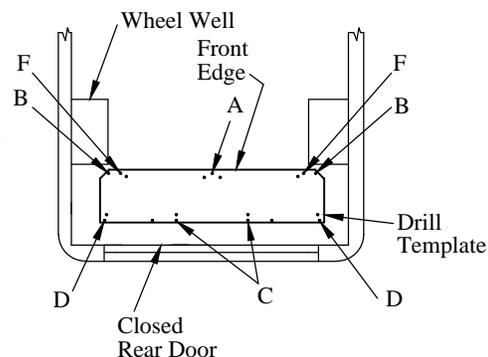

Figure 7: Drill location (top view).
14. **Drill** 3/8" holes in eight (8) locations in the template. Drill "B", "C", "D", and "F" locations only, skip all others (Figure 7). Insert a 3/8" bolt into each hole as it is drilled to maintain hole alignment and template position.